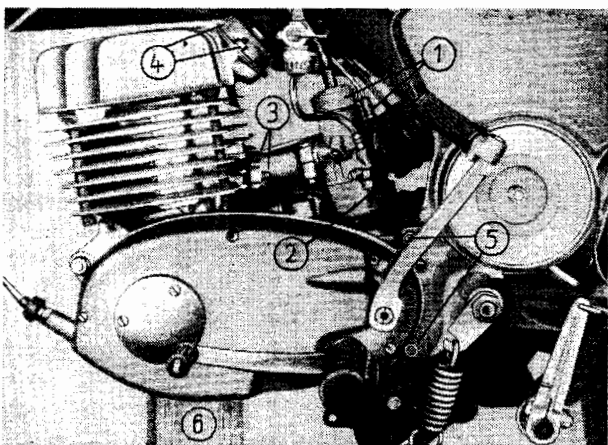

Fig. 11. Carburetter
It is advisable to prop the engine by means of a suitable wooden block (6) (see Fig. 11) before loosening the two nuts (4) from the cylinder head (use an open-end wrench of width over flats 13) and the two rear (5) fastening screws (use width over flats 13 socket wrench).